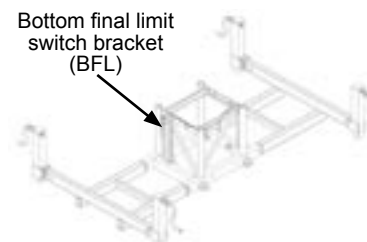

Fig. 150
- 1- Remove the bottom final limit switch (BFL) bracket from the half mast attached to the base pedestal (fig. 150).